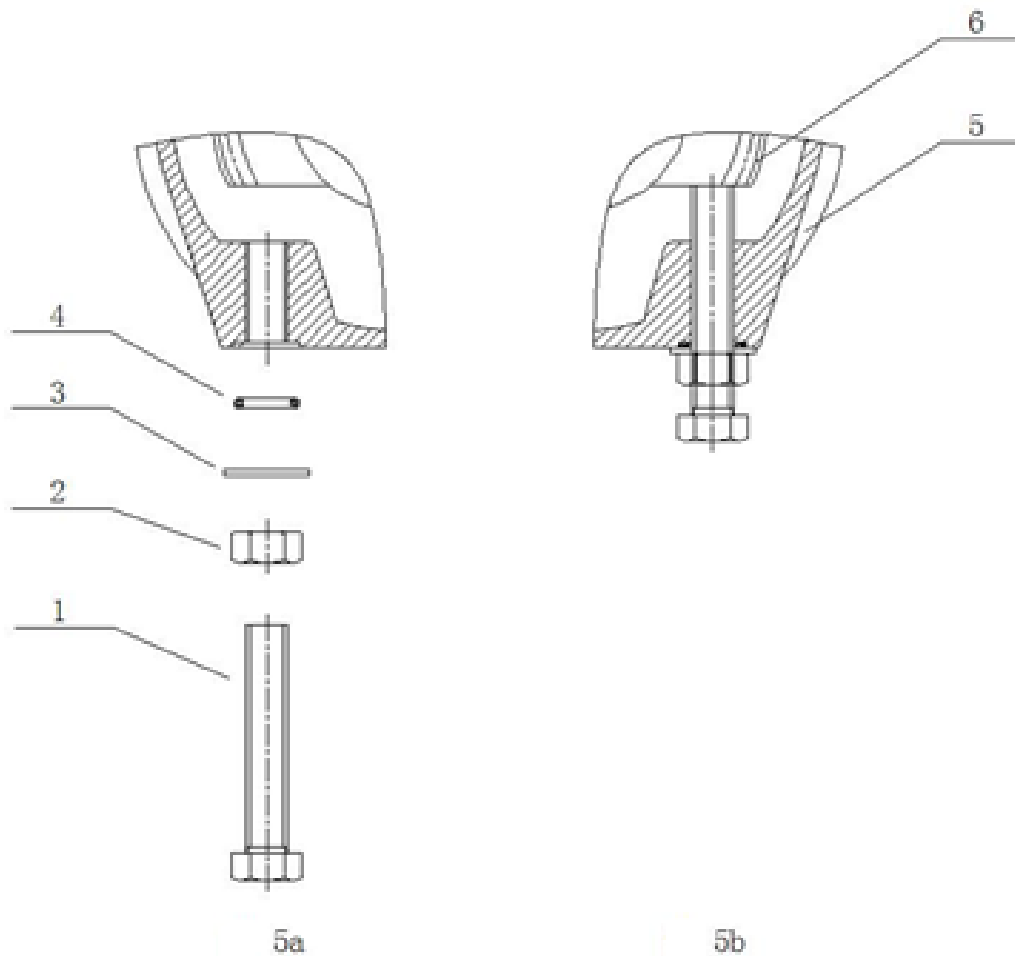

Figure 4
- If the full open or full close limit of the valve is not suitable, the set screws should be adjusted, as shown in Figure 4. Loosen the lock nut (2) and limit screw (1), rotate the handwheel and let the valve in the correct "open" position, insert the set screw top to the worm wheel, install the lock nut to make the O-ring (4) close to the housing, lock the nut (2), and deform the rubber ring into the thread to achieve a tight packing seal, preventing rainwater from entering the worm gear box and damaging the product. The elastic function of the rubber can also prevent the nut from loosening, as shown in Figure 5b. The adjustment of the closed position follows the same steps as the open position.